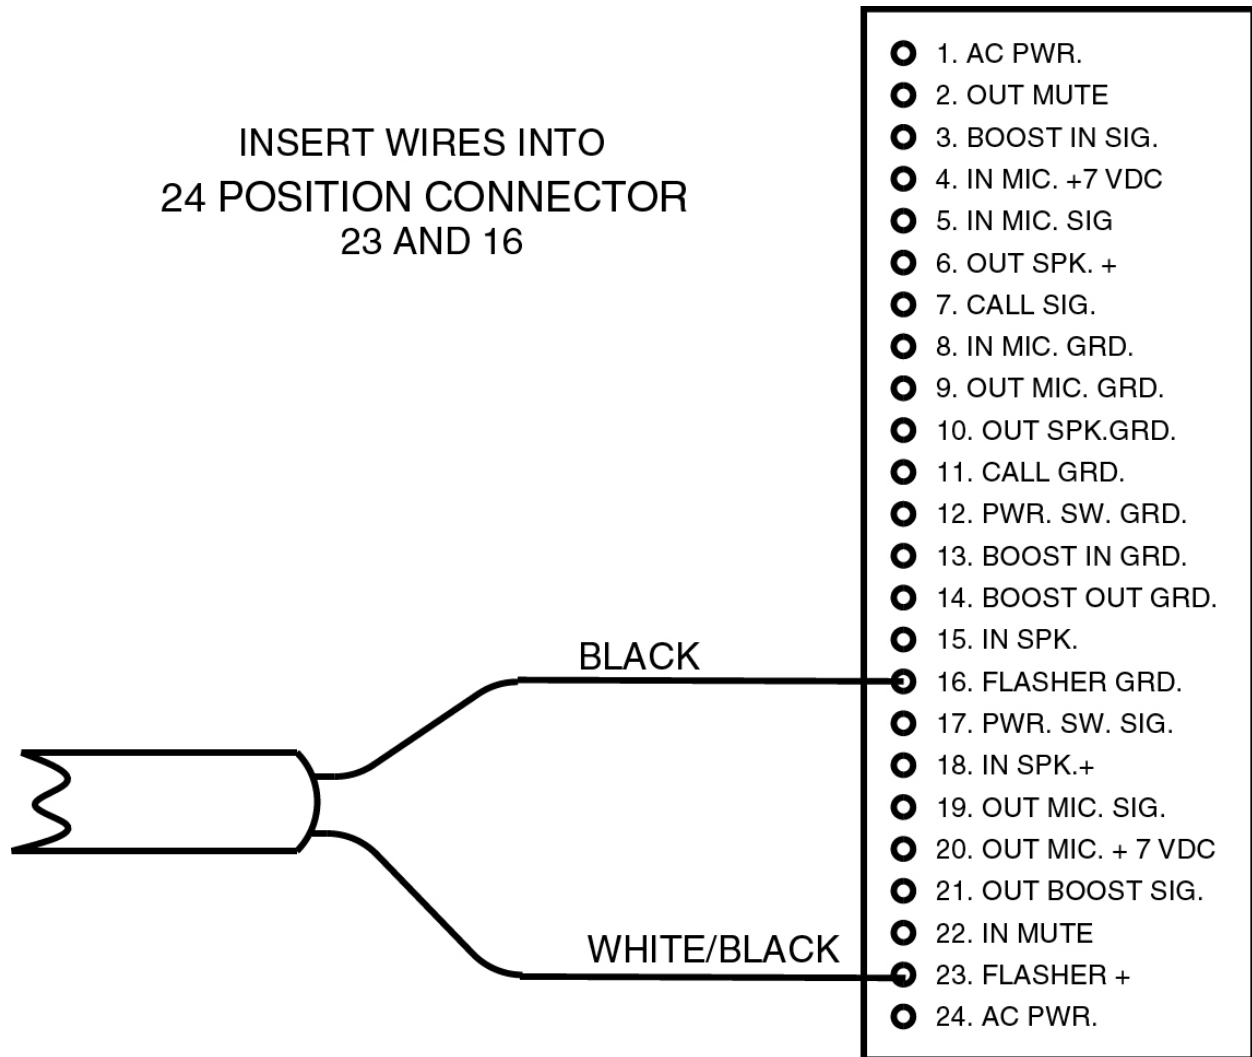

FIG. 1
2. There is a 50' signal cable supplied with the kit. The end with the black plastic connector housing plugs into the circuit board header marked J3. The opposite end has metal connectors crimped onto them. The metal connector ends are to be inserted into the 24 position connector disassembled in step 1. Insert the **WHITE W/BLACK STRIPE** wire of the flasher into position 23. Insert the **BLACK** wire into position 16. (See FIG. 1 diagram on page 2.) Note that the metal connector ends are square. On one side there is a locking tab. The side with the locking tab goes into the side of the 24 position plastic connector housing, which has two rectangular windows in it per position. When the metal connector ends are properly inserted into the plastic connector housing, the locking tabs will be in the window away from the wire end of the housing. The insulation of the wire will appear in the window closest to the wire. The wire will not pull out of the housing after it is properly installed.